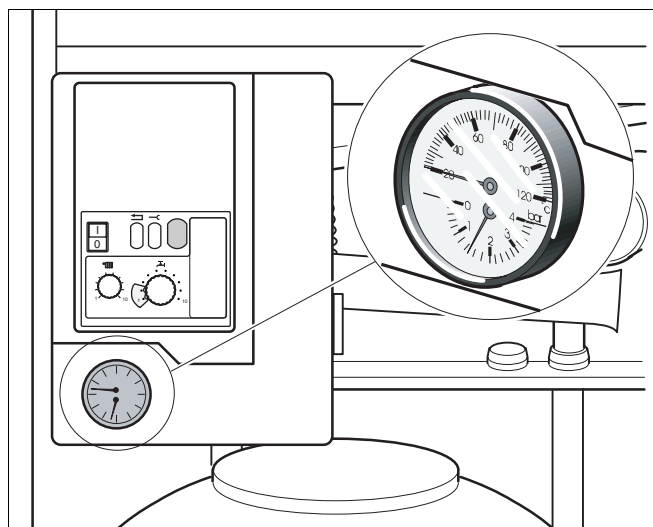

Fig. 4 Pressure display
- Fill the system to a pressure of 1.0 to 1.2 bar (fig. 4). Max. water pressure is 2.0 bar.